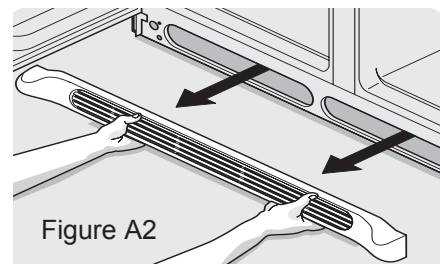

Figure A2
2. Remove toe grill by pulling it straight out. (See Figure A2.)